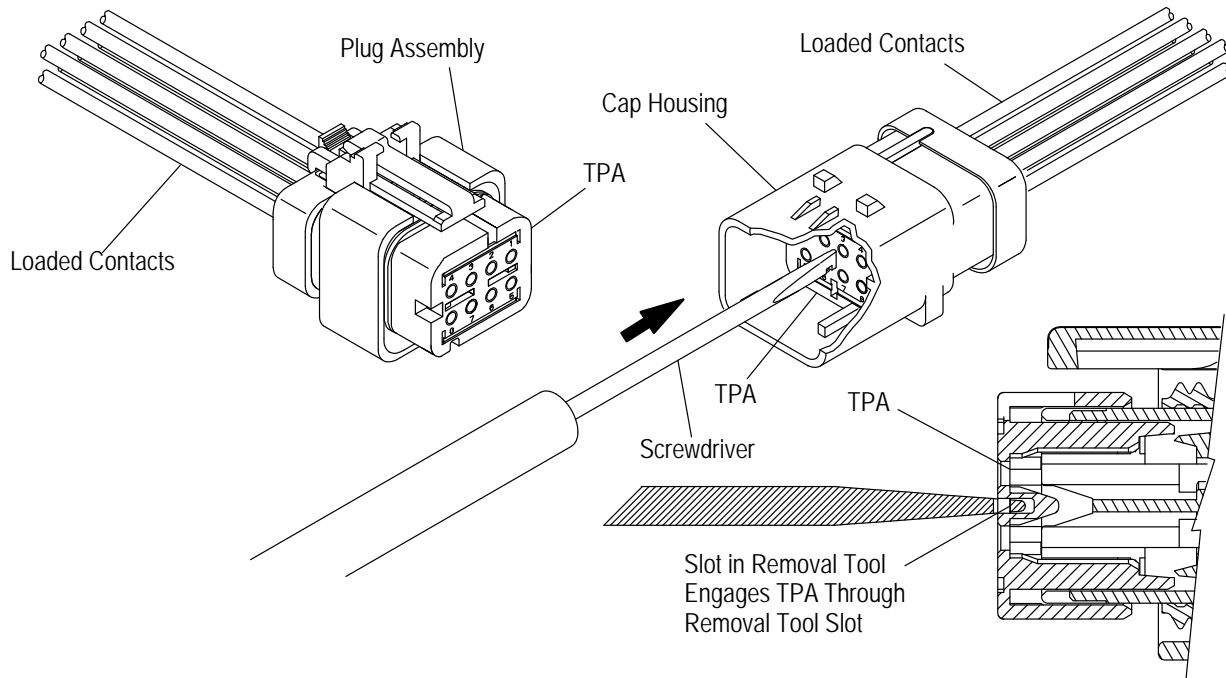
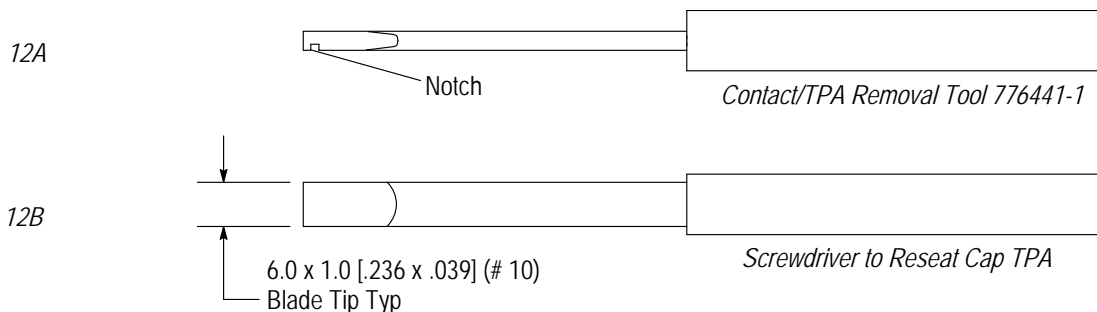

Figure 4
Figure 12
The cap housing TPA may be fully locked by placing the blade of a screwdriver in the center of the TPA and pushing the TPA into the cap housing until you feel it move into the locked position or closed. See Figure 4. To avoid possible damage to the TPA, use a screwdriver as described in Figure 12.b and make sure the tip is turned 90° to any grooves on the face of the TPA.
2. Push the TPA into the pre-staged position by using a screwdriver or equivalent with a blade as described in Figure 12. Verify the correct position by using the procedure indicated in Paragraph 3.3.A.1.